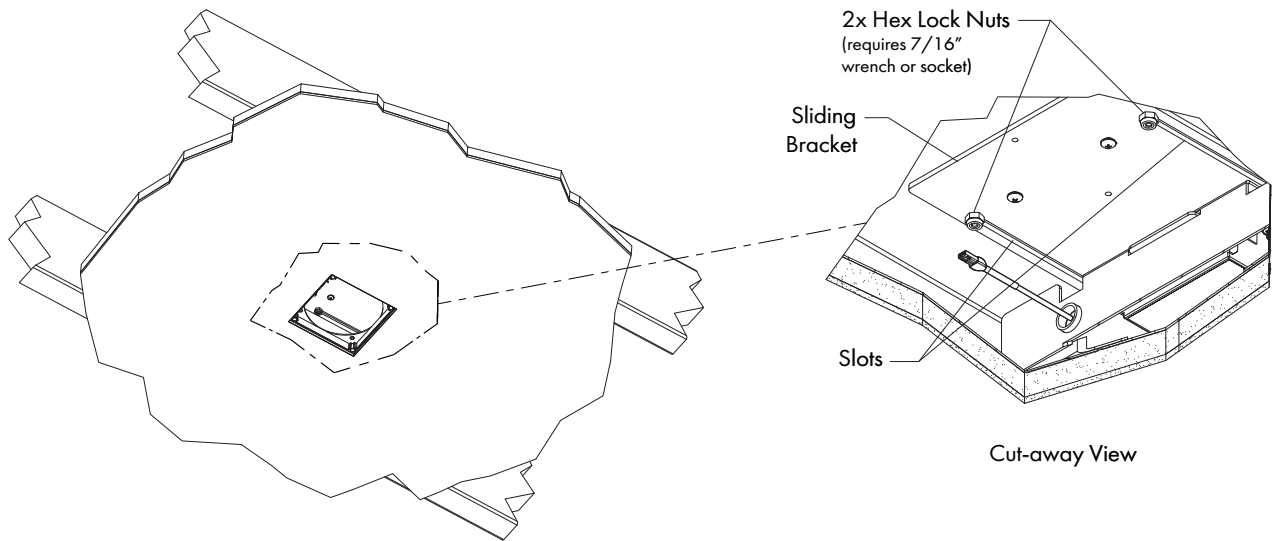

FIG 6.1 Loosen Hex Lock Nuts on Sliding Bracket
STEP 2 Locate & loosen (DO NOT REMOVE) 2x Hex Lock Nuts as shown in **FIG 6.1**.